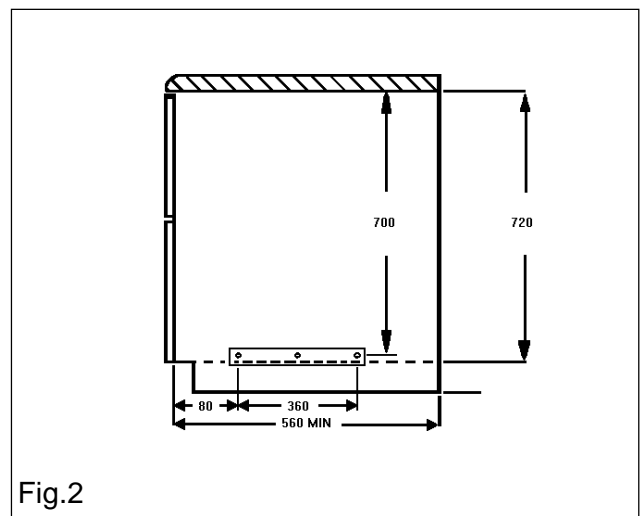

Fig.2
- This cooker is designed to be fitted between cabinets with the recommended dimensions as shown in Figs. 2 and 3.